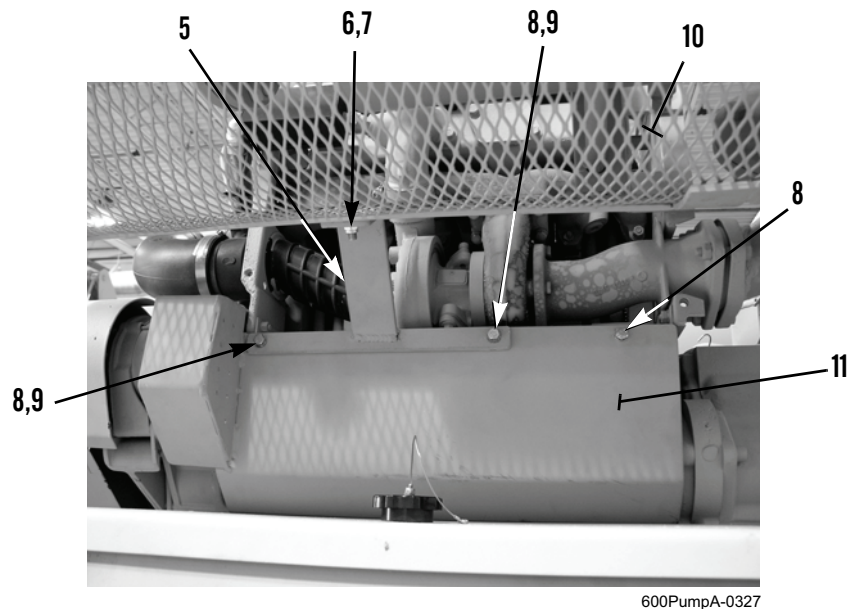

Figure 3. Lower Access Plate.
1. Remove bolt (Figure 3, Item 6) and locknut (Figure 3, Item 7) from lower bracket (Figure 3, Item 5) and heat shield (Figure 3, Item 10). Discard locknut.
2. Remove three bolts (Figure 3, Item 8), two lockwashers (Figure 3, Item 9), lower bracket (Figure 3, Item 5), and lower access plate (Figure 3, Item 11) from left side of engine. Discard lockwashers.
1. Install lower bracket (Figure 3, Item 5) and lower access plate (Figure 3, Item 11) to left side of engine with two new lockwashers (Figure 3, Item 9) and three bolts (Figure 3, Item 8).
2. Install bolt (Figure 3, Item 6) and new locknut (Figure 3, Item 7) on lower bracket (Figure 3, Item 5) and heat shield (Figure 3, Item 10).